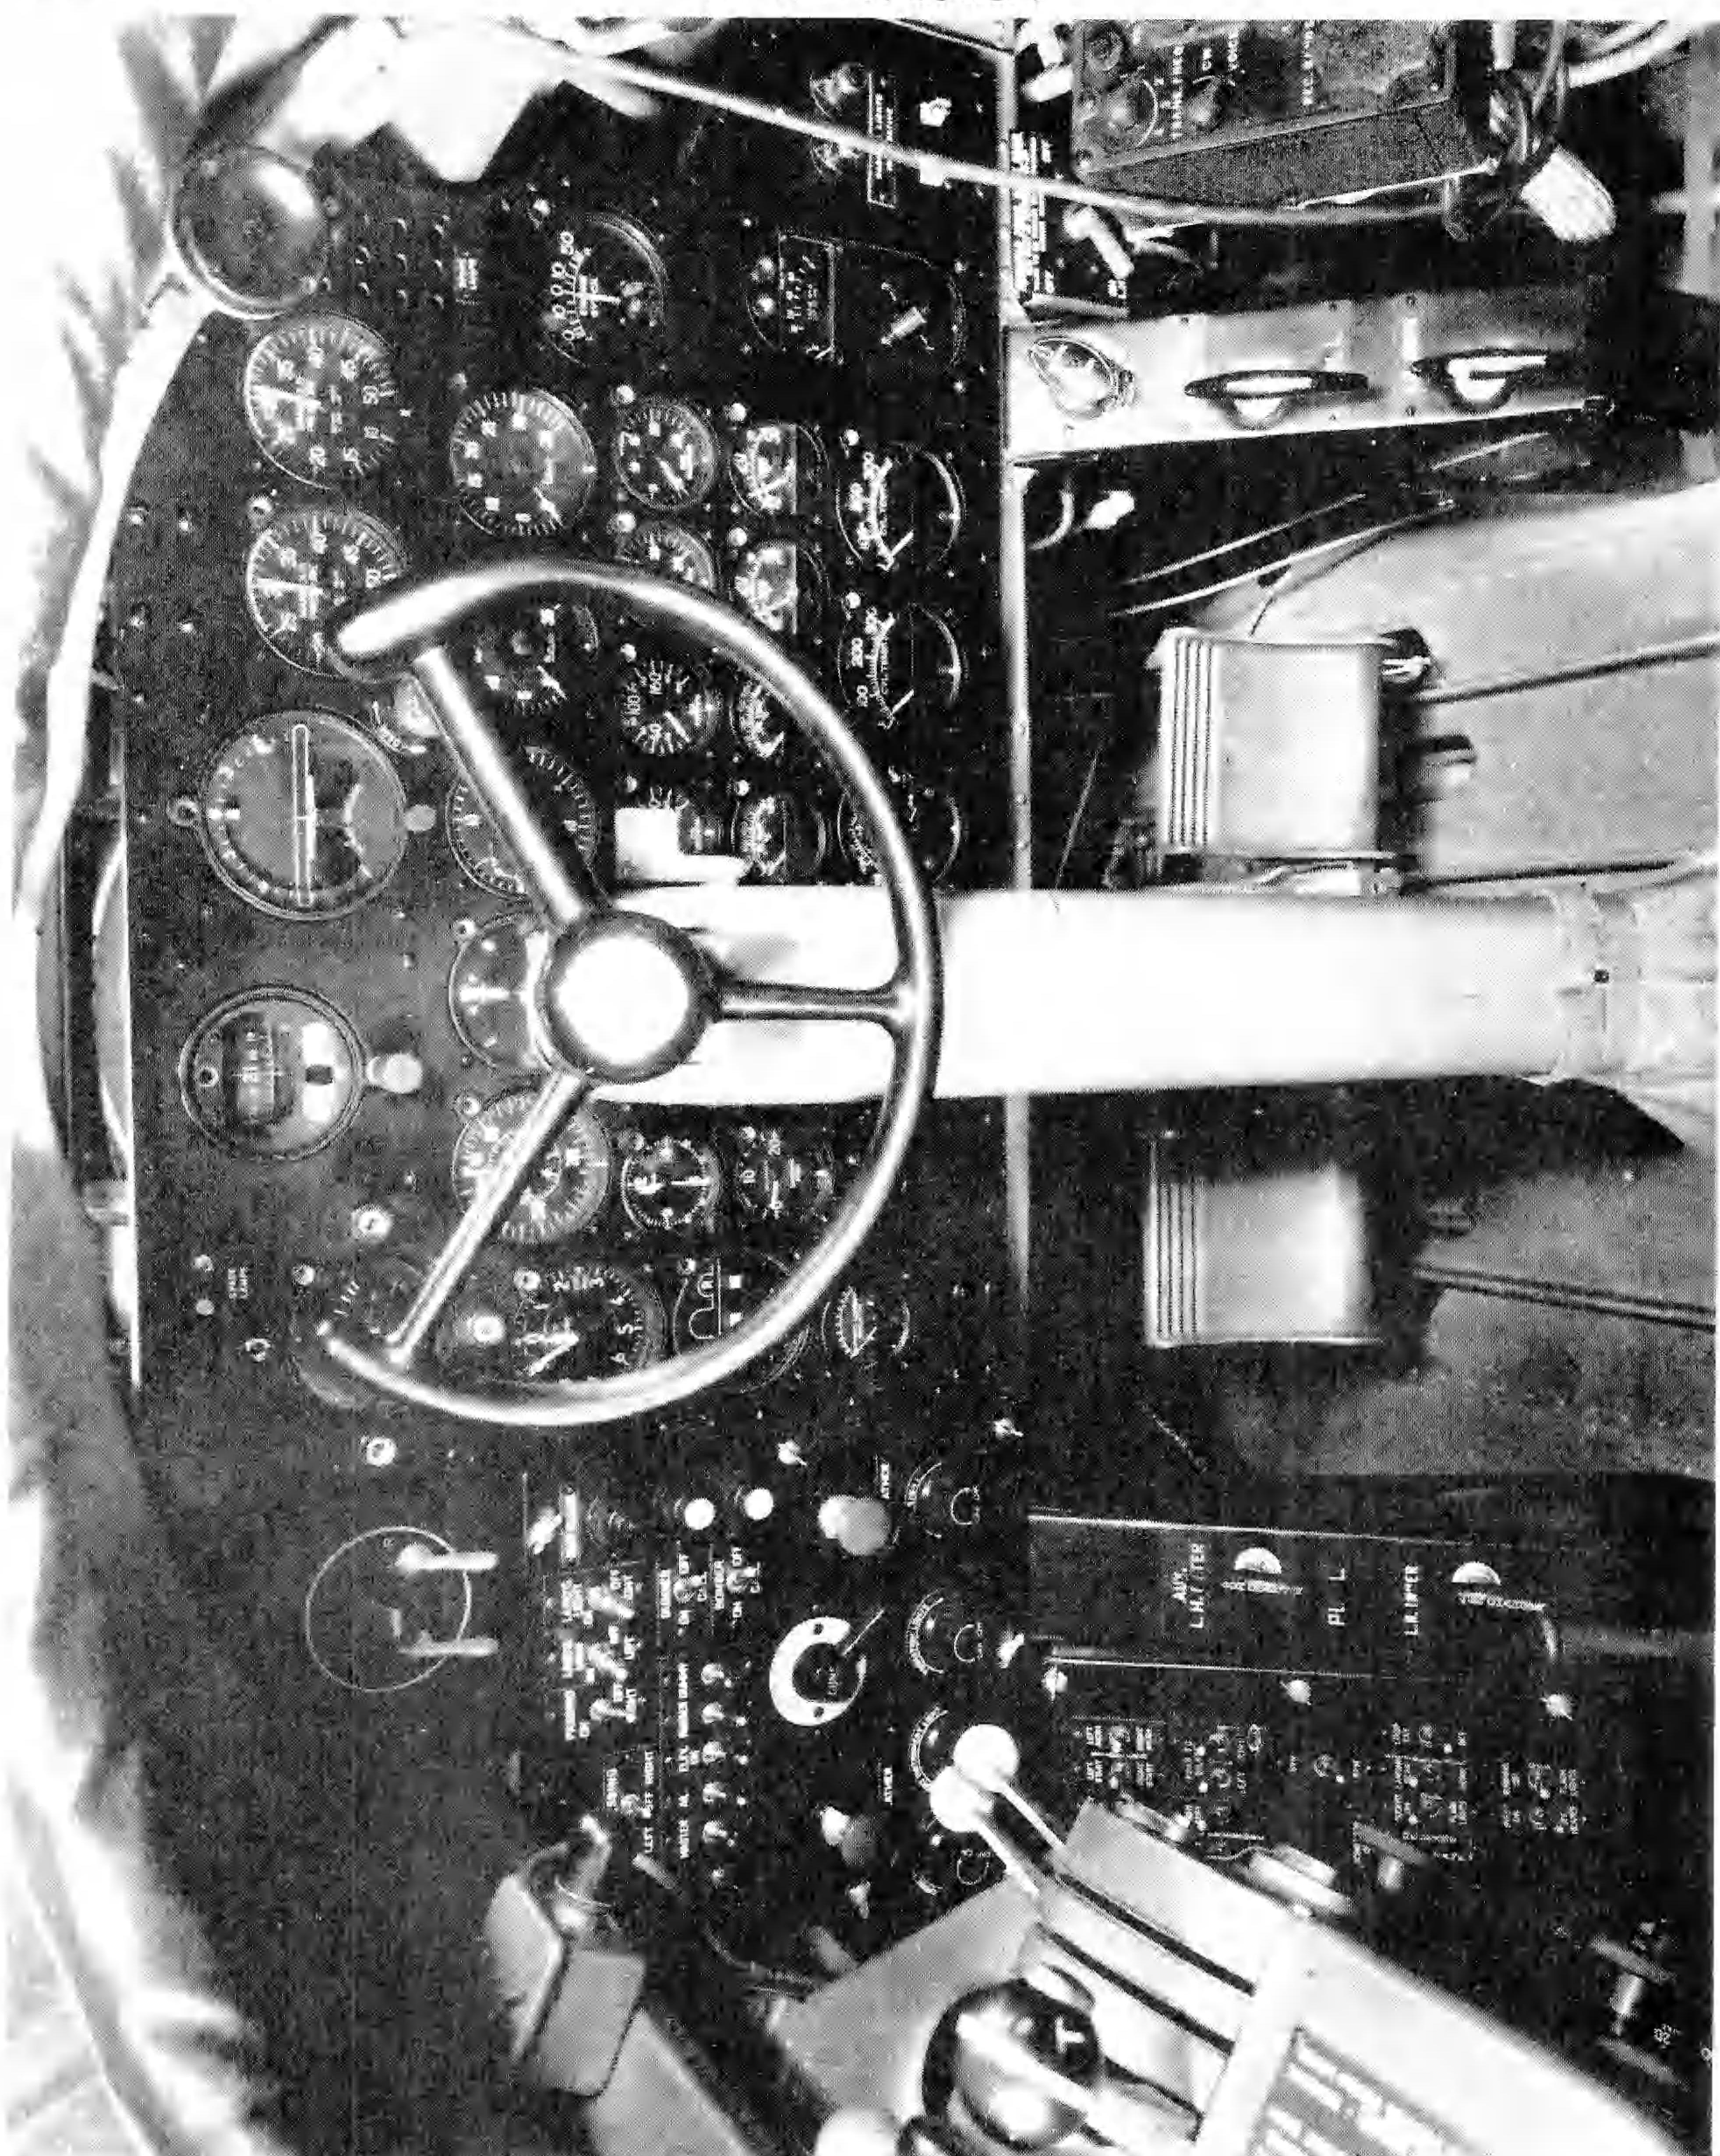

FIG. 4 - PILOT'S INSTRUMENT AND ELECTRICAL PANELS
1. Location of Controls. - See Figures 4 to 10 Inclusive.
a. Flight Controls. - (1) Rudder Pedal Adjustment: On inner side of each rudder pedal.
(2) Aileron, Elevator and Rudder Tabs: On tab control box located on the right side of the pilot's compartment.
(3) Flaps: Hydraulic control on panel at left side of pilot's seat.
b. Landing Gear Controls. - (1) Hydraulic Control: On panel at left side of pilot's seat.